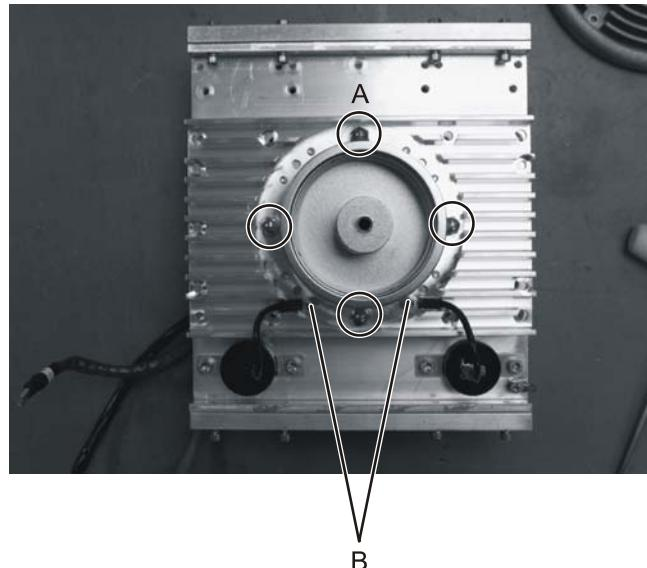

Figure 52: Cathode heat sink and varistor cable securing screws
13. Use the 10 mm socket wrench to remove the four GRP (glass reinforced plastic) screws that secure the thyatron onto the cathode heat sink (see Figure 52, A).
14. Use the 7 mm socket wrench to remove the two hexagon cap nuts securing the varistor cables (see Figure 52, B).